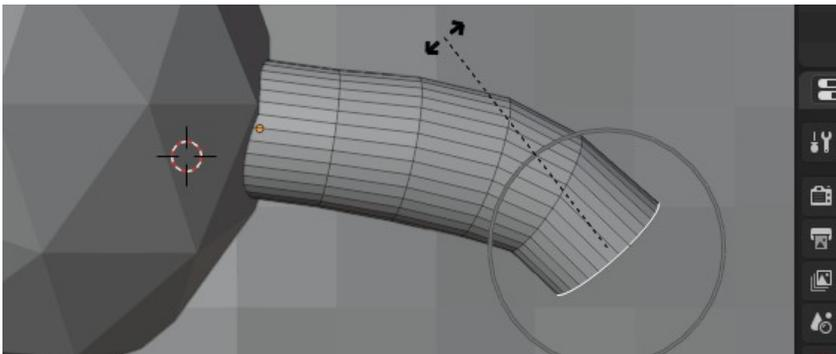

Figure 2-12 Extrude and steer the corridor.
3. Switch to Edit mode with **face select** enabled, select the end of the cylinder, and extrude it into a series of short sections following the slope of the hill (Figure 2-12).